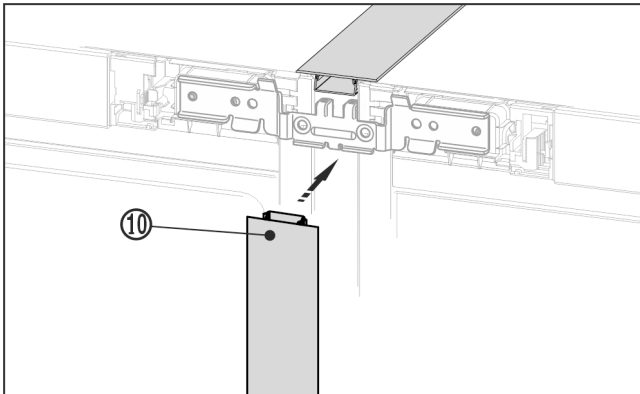

Fig. 23
- On the front press the long cover strip Fig. 23 (10) into the vertical gap. Ensure that the strip rests on the connecting plate.